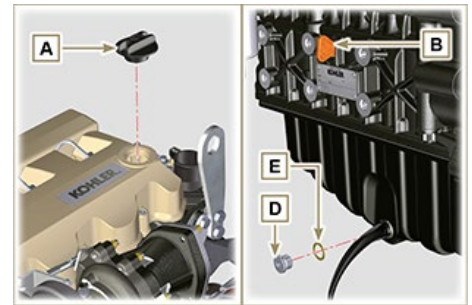

Fig. 6.1
1. Loosen the oil filler cap **A** (Fig. 6.1).